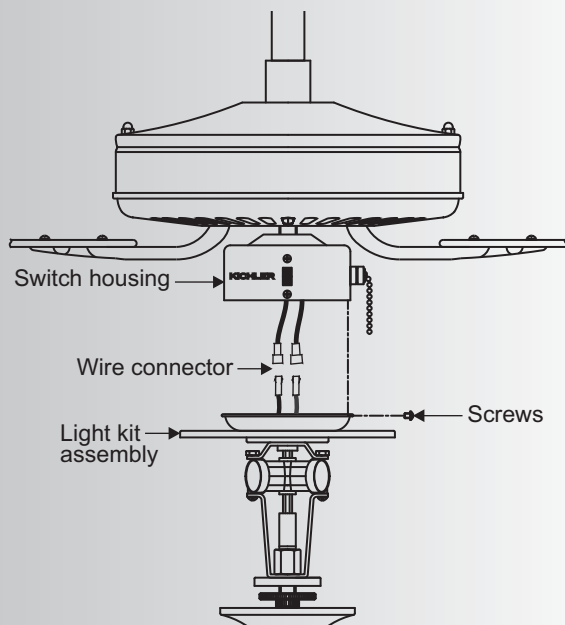

Fig. 16
2. While holding the light kit assembly under your fan, Make the polarized plug connections: (Fig 16)
3. Carefully push all wires back into the switch housing, then install the light kit assembly onto the switch housing with the screws provided. Be sure to tighten all screws. (Fig 16)